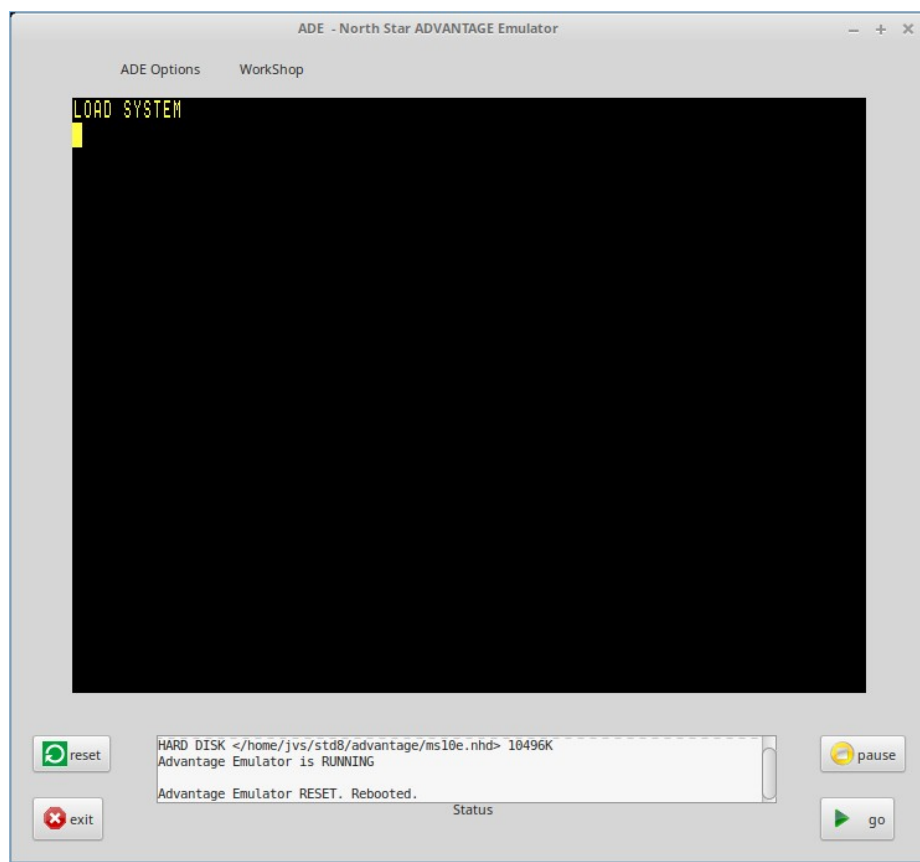

Fig. 2. After hitting 'go' button. "LOAD SYSTEM" screen. Z80 Emulator running. Hit 'enter' key to boot from floppy disk. Yellow screen output.
- Fig. 2, Page 9: 'LOAD SYSTEM' Boot-Up Screen.**